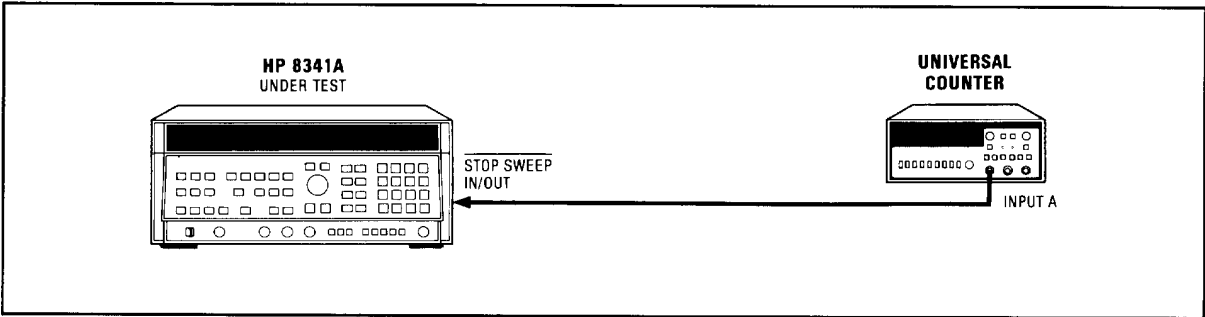

Figure 4-3. Sweep Time Accuracy Test Setup
1. Connect equipment as shown in Figure 4-3. Switch the HP 8341A POWER to ON. Allow the equipment to warm up for 30 minutes.